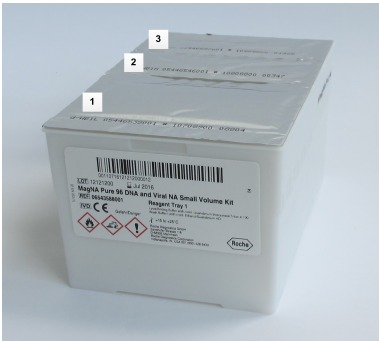
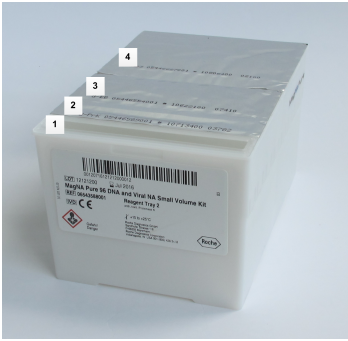

Fig. 1: Example of a product image - Reagent Tray 1
Fig. 2: Example of a product image - Reagent Tray 2
- ⚠ Several buffers in the MagNA Pure 96 DNA and Viral NA Small Volume Kit contain dangerous or hazardous compounds. For detailed information, see Figure 1 (Reagent Tray 1), Figure 2 (Reagent Tray 2), and Table 1. Do not allow these reagents to touch the skin, eyes, or mucous membranes. If contact does occur, wash the affected area immediately with large amounts of water. If the reagents are spilled, dilute the spill with water before wiping it up.